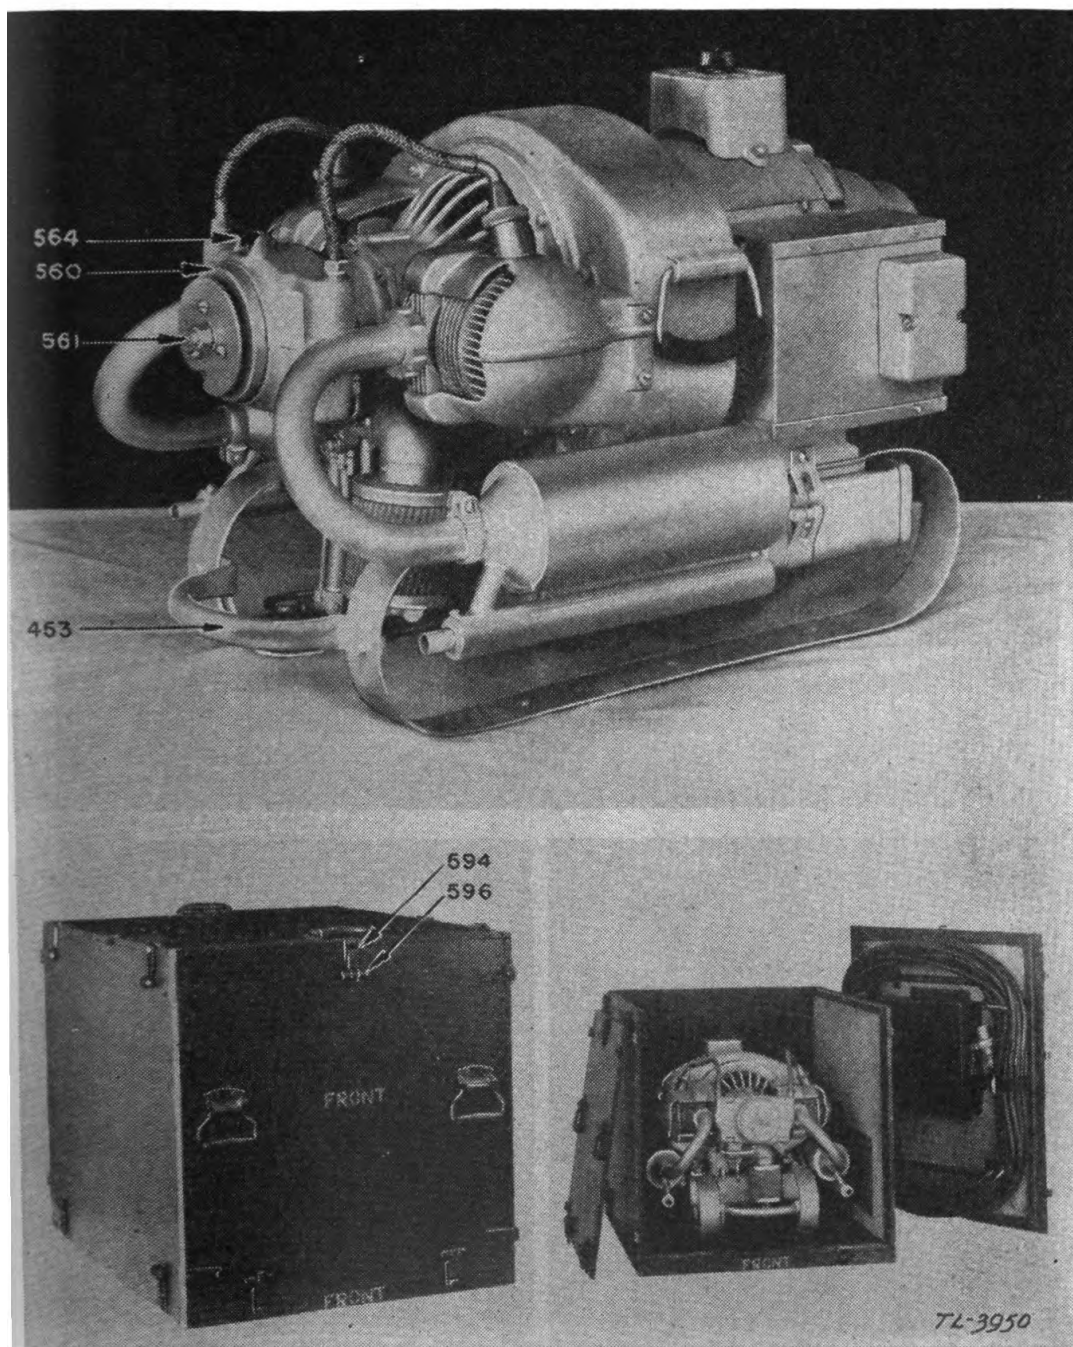
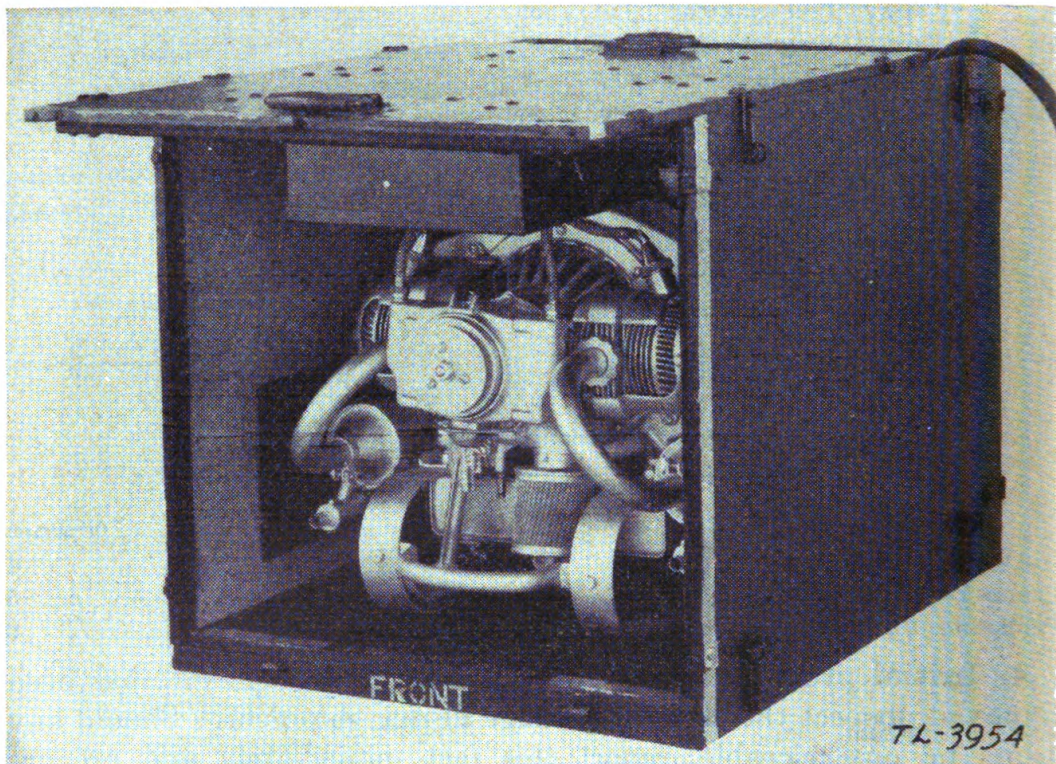
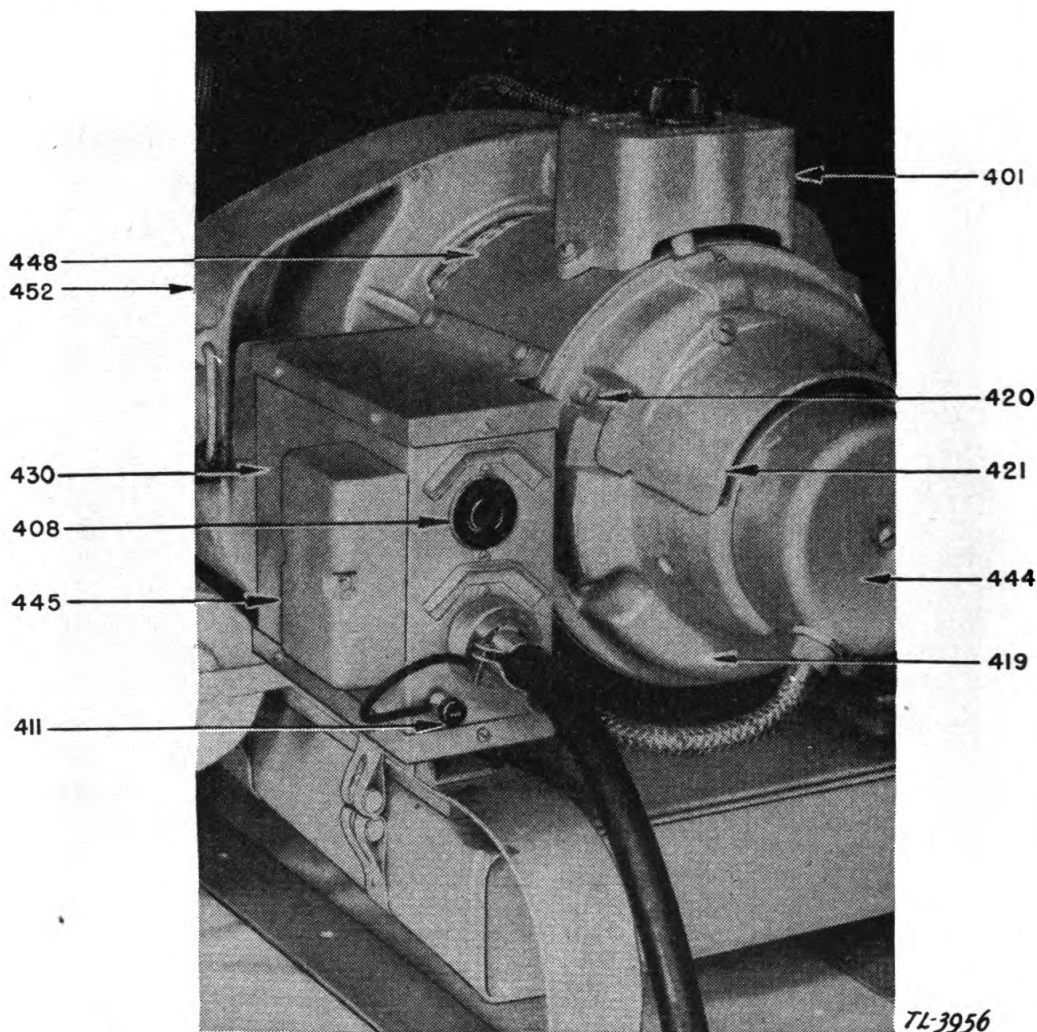

FIGURE 1.—Power unit PE-75-A (in and out of case).
FIGURE 5.—Power unit PE-75-A, ready for operation in case.
FIGURE 7.—Close-up of generator end, showing power cord in place.
1. General.—*a.* Power units PE-75-A and PE-75-B are self-contained, portable generators capable of supplying 2,500 watts of a-c power at 110 volts, 60 cycles, through 50 feet of cord. Figure 1 shows three views of the machines. The two models are alike except for very slight differences in several minor parts; the different suffix letters merely indicate different procurements. For the sake of convenience, reference will be made throughout this manual only to the power unit PE-75-A, and it will be understood that the same information applies equally to the power unit PE-75-B, unless otherwise stated.
b. Remove the six wood dowel pins (596) from the six catches (594) on the top of the case; release catches to permit removal of the top. (See fig. 1.)
c. Release the two catches (593) on front of case (fig. 1). (The front is indicated by a stripe around case.) Then remove the front end by lifting up.
b. Operation in case, using cord CD-409 or CD-415.—(1) Set case with front directed away from equipment to be operated. Follow starting and stopping instructions in *e* below.
(2) Remove cord CD-409 or CD-415 if supplied (see par. 1) from inside the case top; place top so that it projects beyond front of case, the overhang to be such as to permit fastening catches to center catch staples on top. (See figs. 5 and 6.)
(3) To place generator in operation, plug the cord into one of the twistlock receptacles (408) on the filter box (430). Attach ground wire on cord to binding post (411) on filter box (fig. 7). Current may be taken from both of the outlets at the same time, providing the total load does not exceed the rated capacity of the generator.
(4) Bring the cord up through rear opening at top. (See fig. 5.)
c. Operation out of case using cord CD-409 or CD-415.—(1) Remove rear end as described in paragraph 4c; then release catches holding sides to base for removal of these sections.
(2) The unit may be operated either on or off the base as required. To remove from base, take off the four wing nuts holding unit to base.
(3) Follow starting and stopping instructions in *e*(1) to (5), inclusive, below. Then proceed as outlined in *b*(3) above and *e*(6) below.
d. Operation using separate wires connected to binding posts.—Follow instructions in *b* or *c* above except for attaching cord. To obtain access to binding posts, remove side of case, if not already done; then remove filter box terminal cover (445). (See fig. 7.) Attach wires to binding posts, which are then exposed, running the wires through the cable clamp (426). (See fig. 19.)
e. Starting and stopping.—**Caution:** Before starting for first time, turn starting pulley (560, fig. 1) by hand to insure that shaft turns freely.
(2) Cut rheostat (401, fig. 7) out fully (turned completely in a counterclockwise direction) before starting engine.
(5) Wind starting rope (563, fig. 21) counterclockwise on pulley (560, fig. 1); place foot on footrest (453, fig. 1) and pull hard, giving the engine a quick spin.
(6) To obtain exact voltage, apply the load to the generator and then turn rheostat (401) clockwise until the desired voltage is obtained. (See fig. 7.)
(7) Once the unit is started, it should require no further attention other than refueling, and possible adjustment of the rheostat if the load is changed.
(8) To stop engine, press red stop button (564, fig. 1) and hold firmly until engine stops.
f. Starting and stopping procedure summarized.—(1) Fill with fuel and oil.
10. Generator.—*a. Commutator (404) and collector rings (405)* (fig. 10).—(1) To inspect commutator and collector rings, remove brush head cover plate (421, fig. 7). The commutator should require no cleaning for several hundred hours of operation. It need be cleaned only when excessively carbonized, when too much arcing occurs, or if scored.